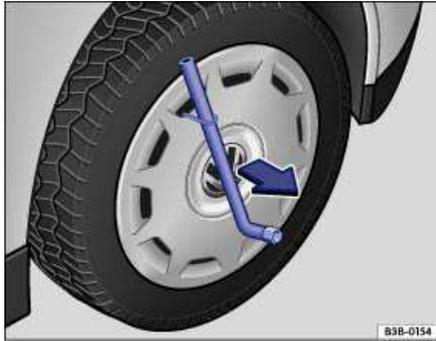

Fig. 189 Pulling the wheel cover off.
- Slide the lug wrench through the clip ⇒ fig. 189 and pull the wheel cover off in the direction of the arrow.